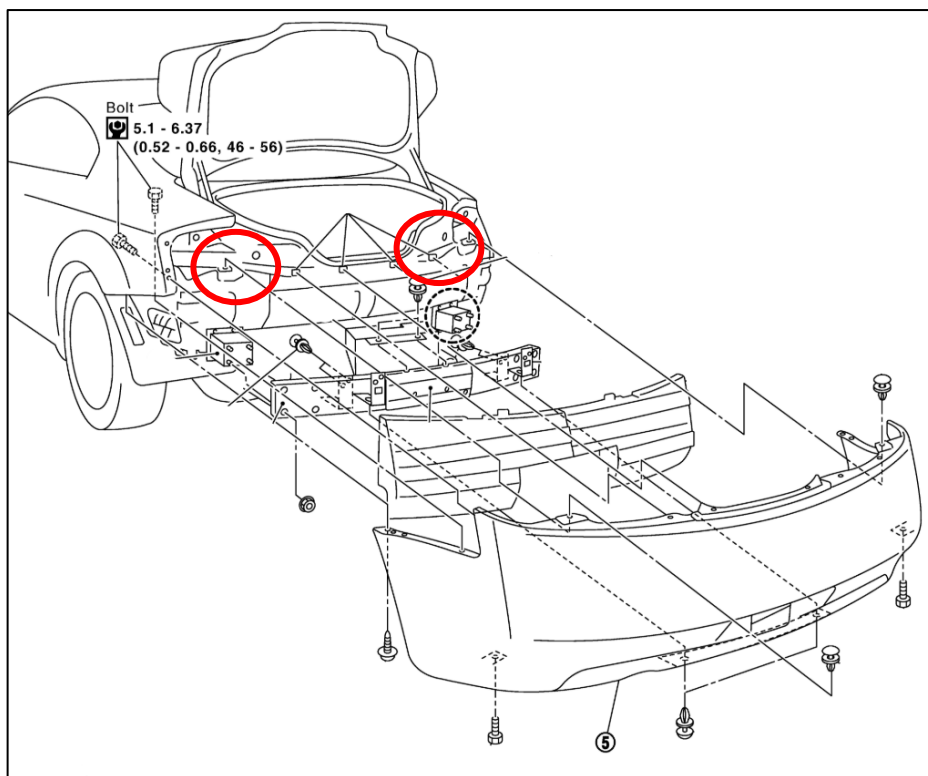

Figure 11
24. Remove the (2) plastic clips on the top of the Rear Bumper, previously covered by the taillights. *Figure 11.*